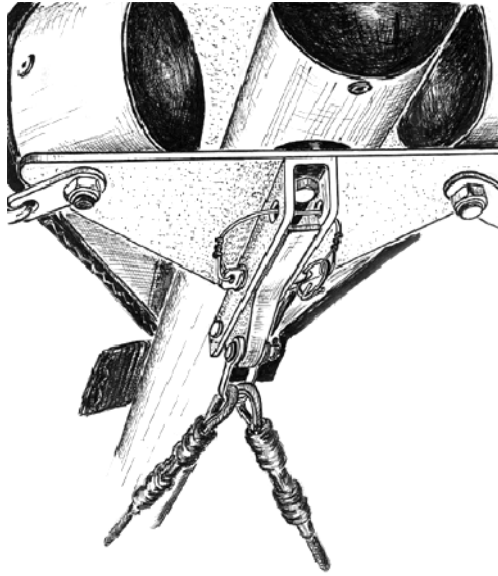

Fig. 20
2.2.14. Put the glider on the A-frame. Secure the nose catch of the bottom wires on the nose junction channel using the clevis pin and the safety ring (Fig. 20).